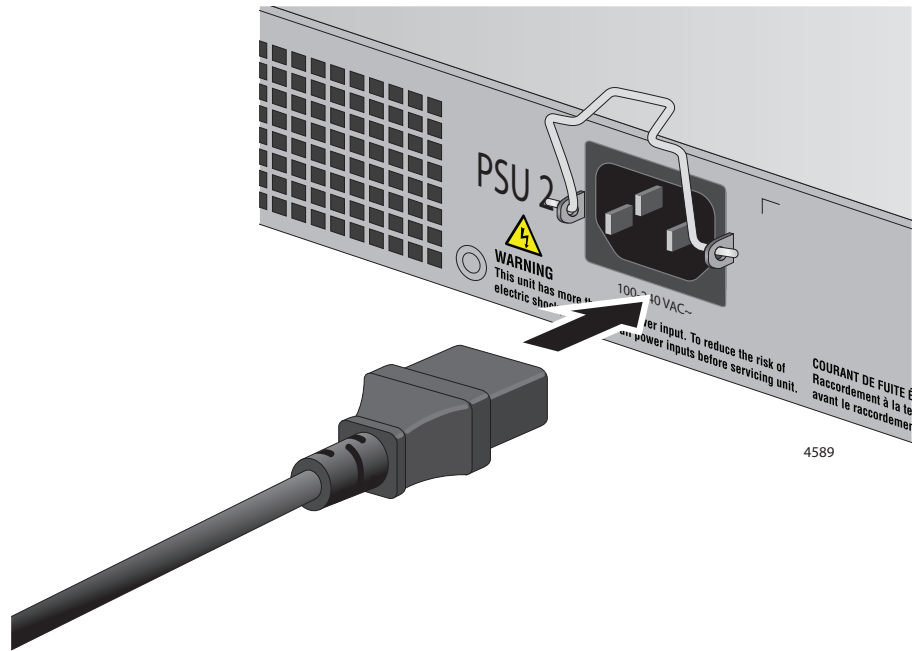

Figure 40. Connecting the AC Power Cords
2. Connect the AC power cord to the AC power connector on the rear panel. Refer to Figure 40 on page 93.